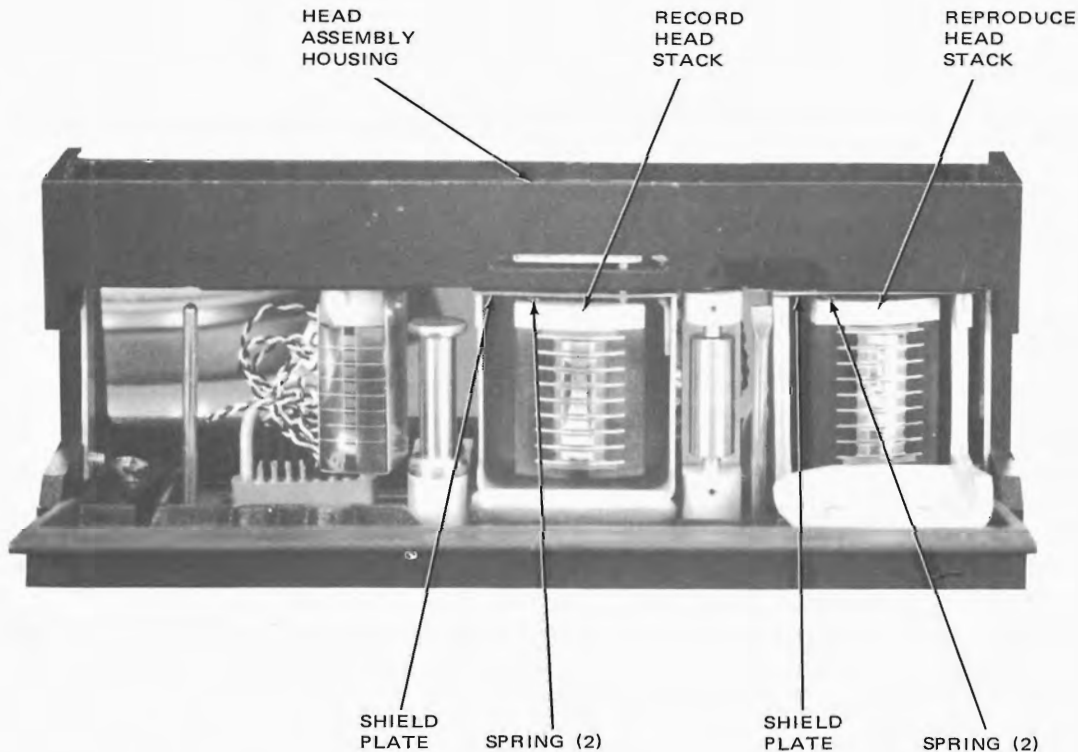

Figure 5-14. Changing Head Stacks (Front View)
4. Being careful not to lose the two springs and shield plate (Figure 5-14), remove the head stack from the head assembly housing. The shield and springs are located between the head stack and the head assembly housing.